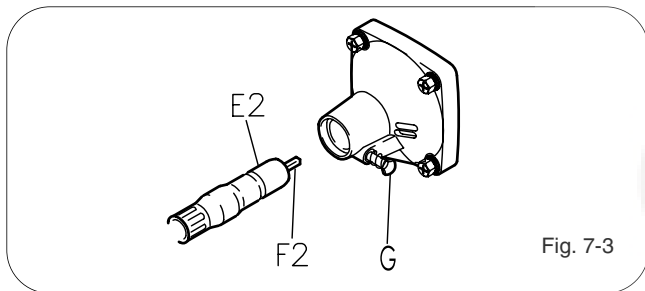

Fig. 7-3
At that time, be careful so that the flexible inner shaft end (F2) enters the mating square hole. After the end (F2) enters the mating hole, release your hand from the knob (G). (Fig.7-3)